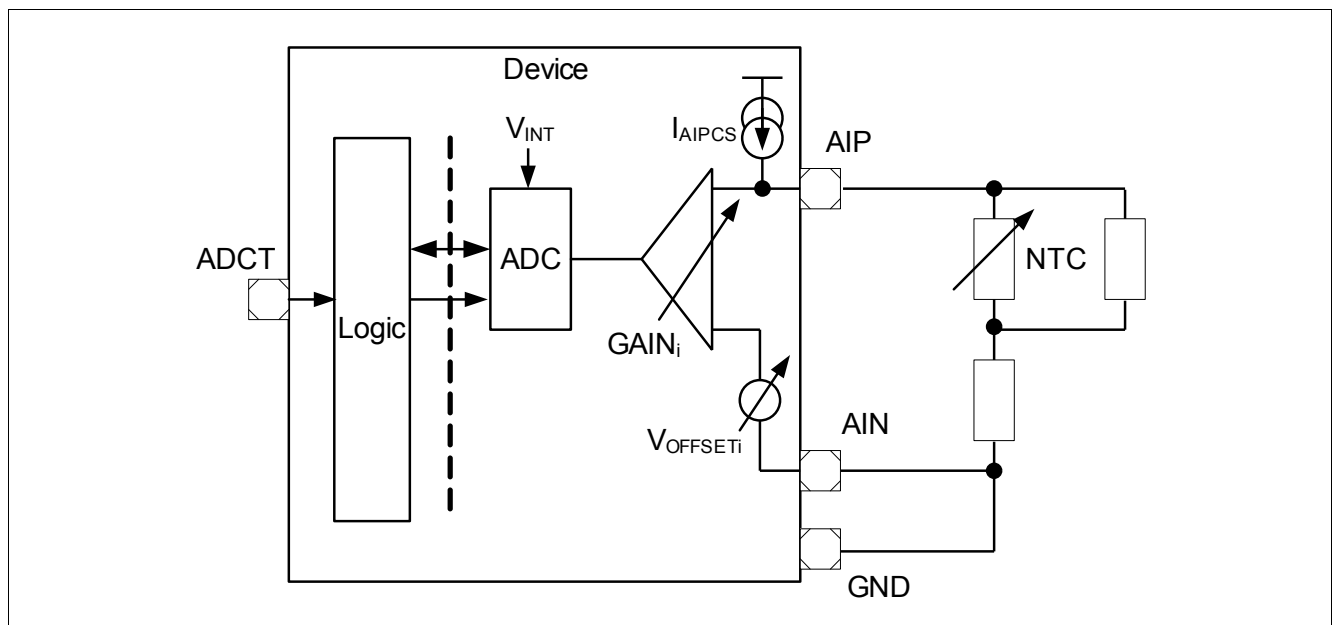

Figure 2-18 Application Example NTC Measurement
- Measurement of a NTC resistor located on the power module (Figure 2-18).